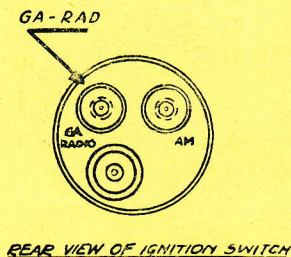

FIGURE 5
(See Figure 5)
1. Connect the terminal end of the "A" lead to the switch terminal GA-RAD. Refer to Figure 5 showing the back of the ignition switch.